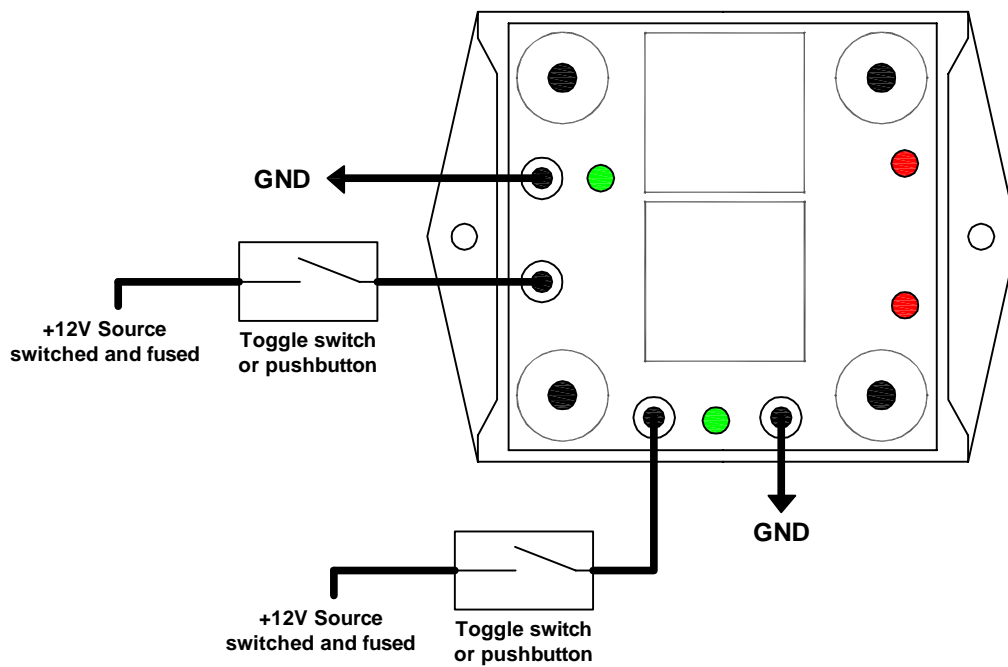

FIG. 2 Basic Positive Activation
- Figure 2 Basic Positive (+12V) Activation
2. Examples for wiring inputs are provided in **Figures 2 through 5**. Wire for input connections must be a minimum of 22 gauge. Each input will require 12 volts and a ground to operate. This applies whether positive or negative activation is being used.